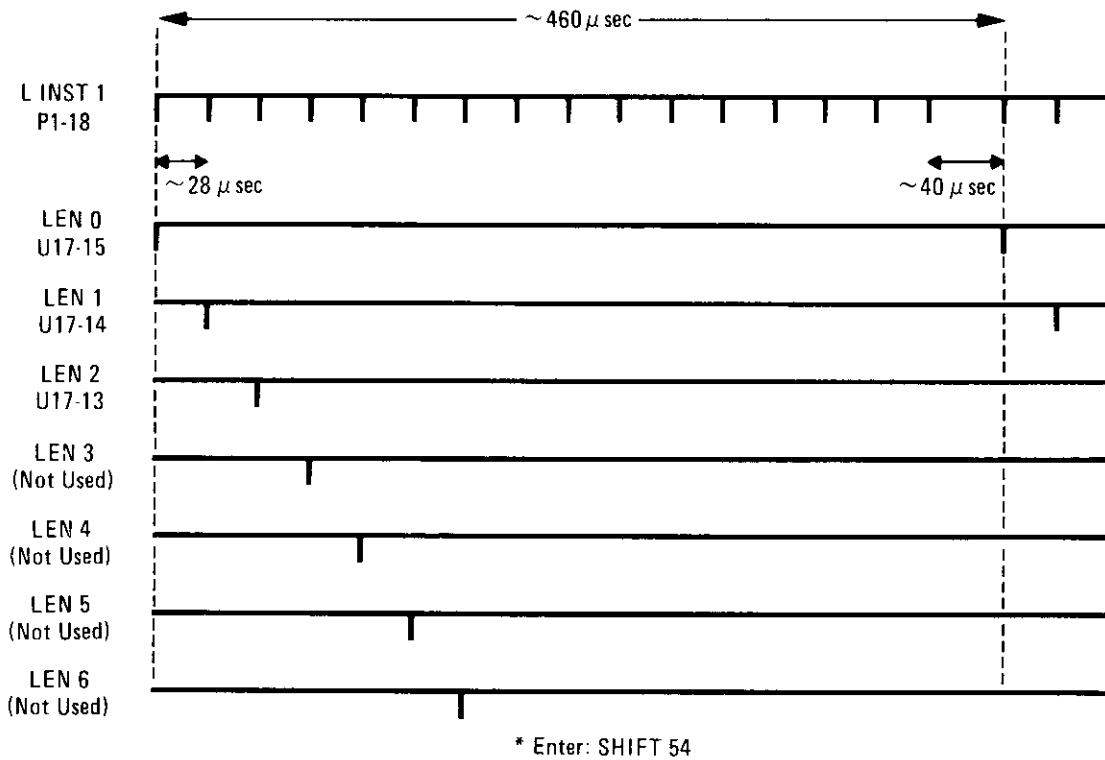

Figure 8-46. A6 Address Decoder Timing Diagrams
2. If L INST1 is functional, check each of the LENn lines (U17) for the pulses shown in Figure 8-46. If these are incorrect, but the address lines show activity, replace U17. If the address lines seem locked high or low, troubleshoot the address buffer on the A3 assembly.